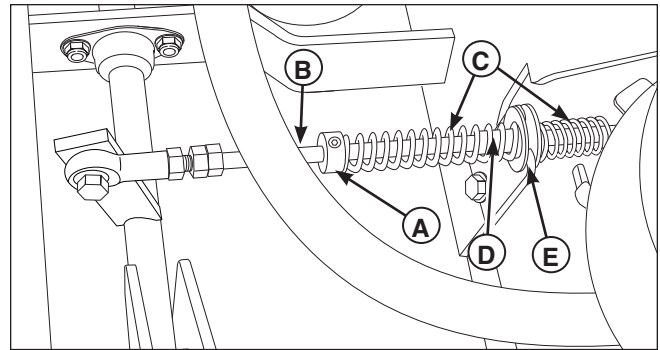

Figure 37. Neutral Return Spring Adjustment
3. Move the ground speed control levers out towards the neutral position. If the levers do not align with the notches in the neutral lock plate, it is necessary to adjust the adjustment linkage rod (B, Figure 37).